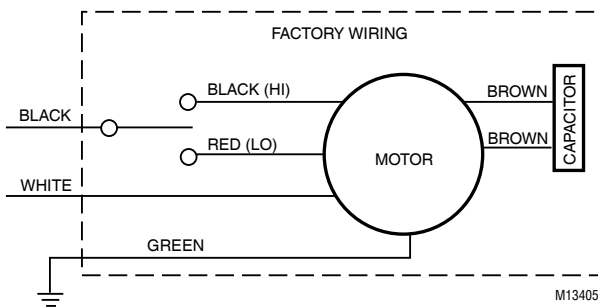

Fig. 8. F120 wiring diagram.
2. Connect the electrical wiring as shown in the Fig. 8.